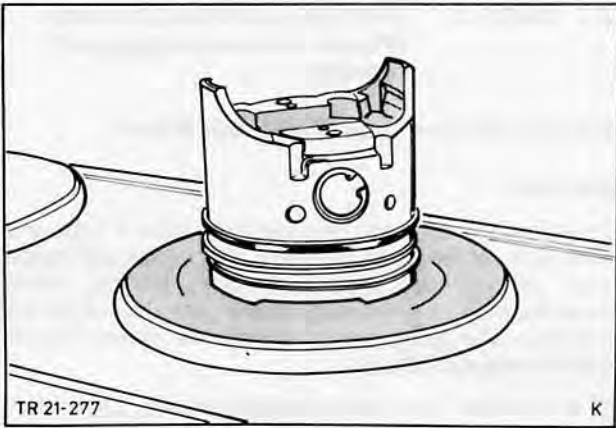

Fig. 216. Heat piston
- Heat piston on a hot plate (Max. 100 °C) Fig. 216.